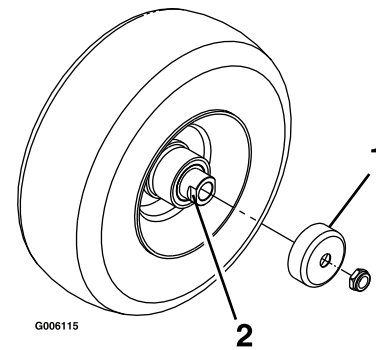

**Figure 38**
7. Grease the PTO drive belt idler arm (Figure 38).
8. Grease the pump belt idler arm (Figure 38).